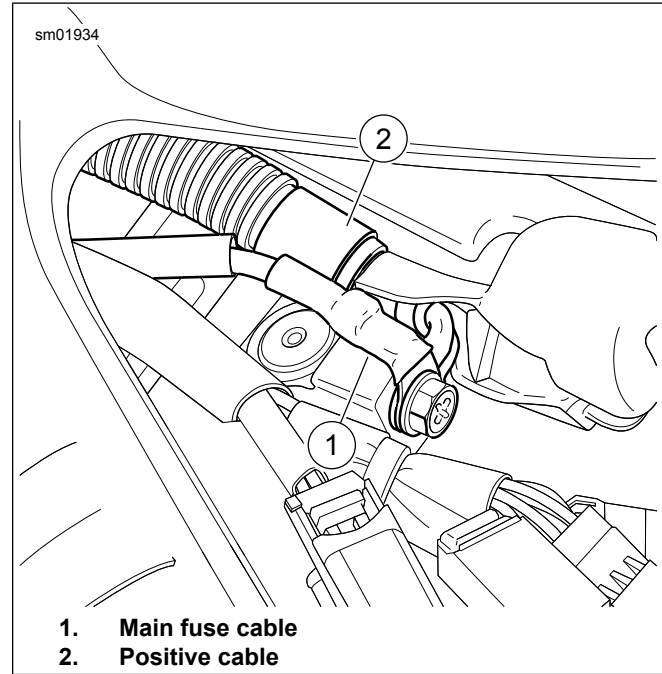

Figure 64. Positive Terminal
4. See Figure 64. Install positive terminal screw through main fuse cable (1) then positive cable (2). Tighten.